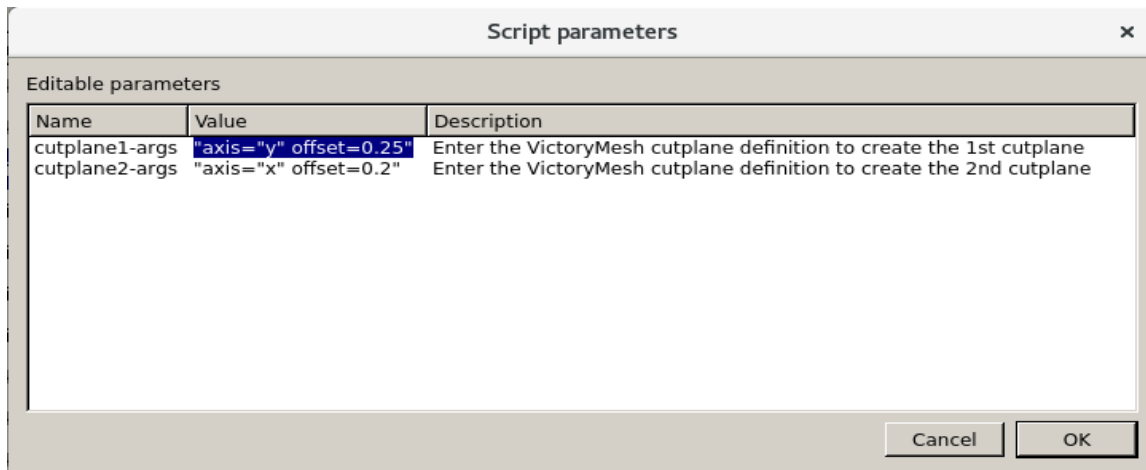

Figure 3-30 Edit script parameters
In order to create a movie you must assign a script, which creates at least one PNG image of the structure. The task of creating a PNG image typically involves the use of the VictoryMesh and TonyPlot tools. The history script `vm_export_cuts.xml` will convert the VictoryProcess history point into three different structure files, one birds view and two cutplanes according to the cutplane definition given when the script was assigned. You can change the parameters of a script by clicking on the 'Edit script parameters' button (P). This will open the parameter dialog shown in Figure 3-30.
The `vm_export_cuts.xml` script defines two cutplanes to create cuts through the structure. The cuts will be shown in the PDF report along with the 3D view (birds view). Figure 3-30 shows two parameters named `cutplane1-args` and `cutplane2-args` of the script `vm_export_cuts.xml`. The column named 'Value' must contain the actual cutplane definition and must follow the syntax of the VictoryMesh cutplane command. In this example